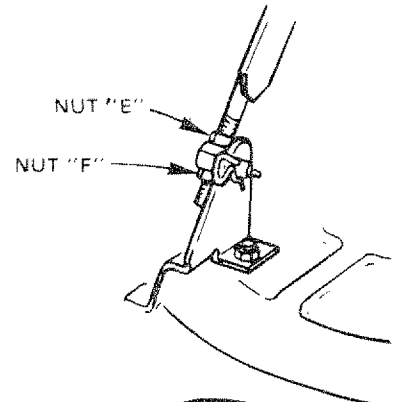

FIGURE 42
- b. To raise rear of mower, loosen nut "E" on both rear suspension arms. Screw both nuts "F" up an EQUAL NUMBER OF TURNS (Fig. 42).
- d. To lower rear of mower, loosen nut "F" on both rear suspension arms an EQUAL NUMBER OF TURNS (Fig. 42).